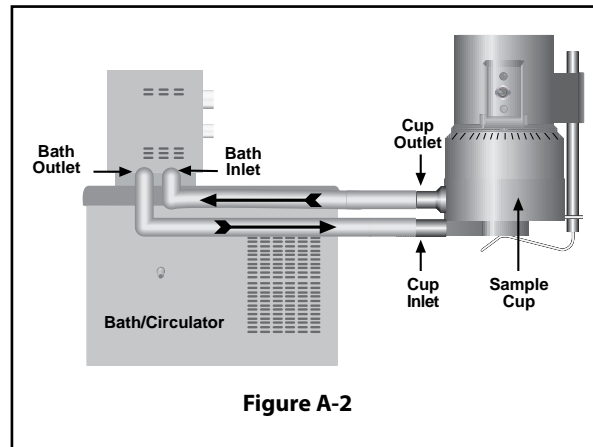

Figure A-2
2. **Figure A-2** shows a typical water bath setup. Connect the sample cup inlet/outlet ports to the water bath inlet and outlet and set the bath to the desired test temperature. Allow sufficient time for the bath to reach the test temperature.